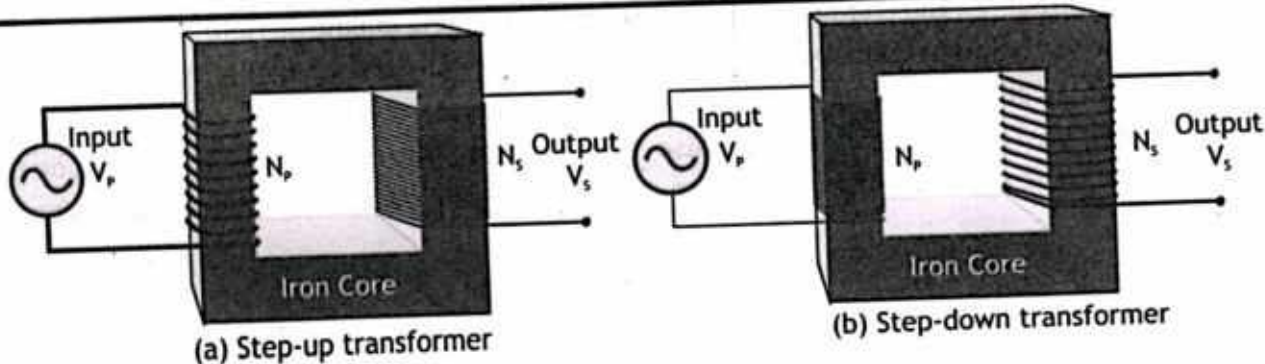

FIGURE 19.20 Types of transformer.
A. Step-up Transformer: A step-up transformer is shown in the figure 19.20 (a). In step-up transformer number of turns in secondary coil (N_s) is greater than the number of turns in primary coil (N_p), so voltage across secondary coil (V_s) is greater than voltage across primary coil (V_p). Hence function of step-up transformer is to increase the voltage.
B. Step-down Transformer: A step-down transformer is shown in the figure 19.20 (b). In step-down transformer number of turns in secondary coil (N_s) is less than the number of turns in primary coil (N_p), so voltage across secondary coil (V_s) is less than voltage across primary coil (V_p). Hence function of step-down transformer is to decrease the incoming voltage.